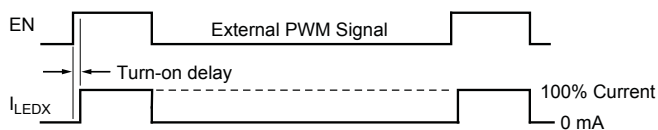

Figure 2. Timing diagram of external PWM signal and LED current
- PWM dimming using the EN pin. PWM dimming is performed by applying an external PWM signal on the EN pin. When the EN pin is pulled high, the A8501 turns on and all enabled LEDs sink 100% current. The sequence is shown in figure 2. For optimal accuracy, the external PWM signal should be in the range 100 to 300 Hz. The slight delay between PWM signal and the LED current causes an error. To compensate for the error, a small turn-on delay should be added to the PWM signal as shown on page 10 of the Performance Characteristics section. When EN is pulled low, the boost converter and LED sinks are turned off. The compensation (COMP) pin is floated, and critical internal circuits are kept active. If EN is pulled low for more than tPWML, the device enters shutdown mode and clears all internal fault registers. As an example, for a 2 MHz clock, the maximum PWM low period while avoiding shutdown is 65 ms.